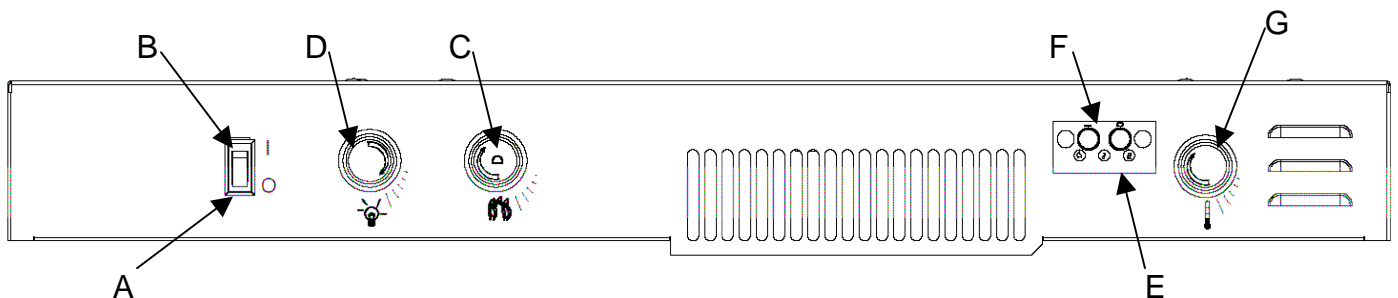

FIGURE 10
2. To locate controls refer to FIGURE 10.